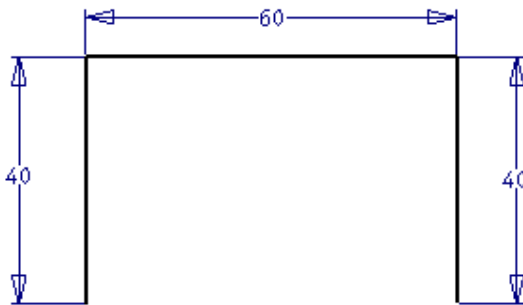

Figure 18-44 First 2D sketch
- a. Create a 2D sketch consisting of three lines on the XY plane and then exit the sketching environment, refer to Figure 18-44.
2. Start a new metric part file and then draw the first sketch on the XY plane, as shown in Figure 18-44.